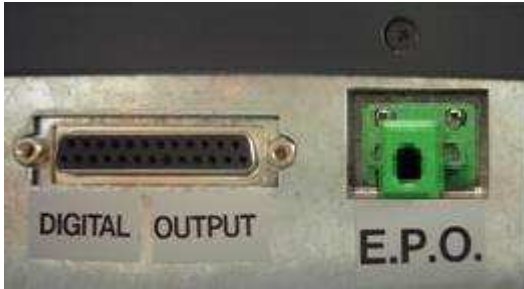

Fig. 15 – Digital output and EPO connectors
It is important to remember to check the Digital Output signals and EPO connections on the rear of the unit (see Fig. 15 on page 25) in accordance with the Bypass procedures 4.6 and 4.7 on pages 19 and 19, before extracting or reinserting the module. Otherwise it will not be possible to remove it, and the load supply may not be guaranteed during Liebert CROSS RACK operation.
Liebert CROSS RACK is equipped with a full set of digital, optically isolated output contacts, which can be accessed via the 25-pin connector on the rear panel of the unit; see Fig. 15.
N.B. Digital outputs are opto-isolated signals (phototransistors), the power supply must be provided externally (max. current 3mA, max. DC voltage +15V) between each output contact pin and pin 1 (COM) – (see Fig. 15)
The Emergency Power Off (EPO – see Fig. 15) if used **MUST BE ENABLED** (see also para. 7.4).
The Liebert CROSS RACK EPO can be enabled remotely if safety conditions make it necessary. This input is available via the 2-pin connector on the rear of the unit (see Fig. 15). Connect pins 1 and 2 to a switch having the characteristics of an emergency pushbutton, normally **ON**, and having a mechanism which holds it in the **OFF** position. When the EPO is activated, all the static switches are opened, and the load is not supplied.